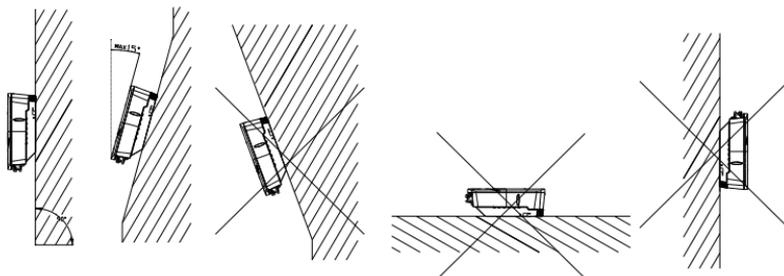

Figure 4.1 Mounting method
- ① The equipment employs natural convection cooling method, and it can be installed indoor or outdoor.
- ② Please install the equipment under the guidance of Figure 4.1. Vertical installation on floor level is recommended. Mount vertically or tilted backwards by max. 15°. Never install the inverter tilted forwards, sideways, horizontally or upside down.
- ③ Considering convenience for maintenance, please install the equipment at a position in parallel with line of sight.